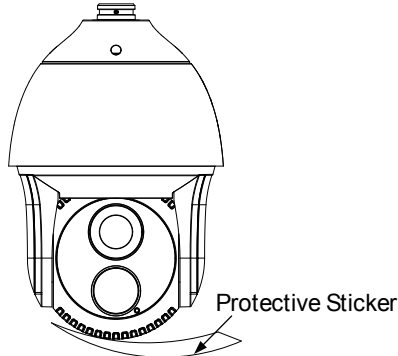

Figure 3-4 Remove Protective Sticker
1. Remove the protective sticker as shown in Figure 3-4.